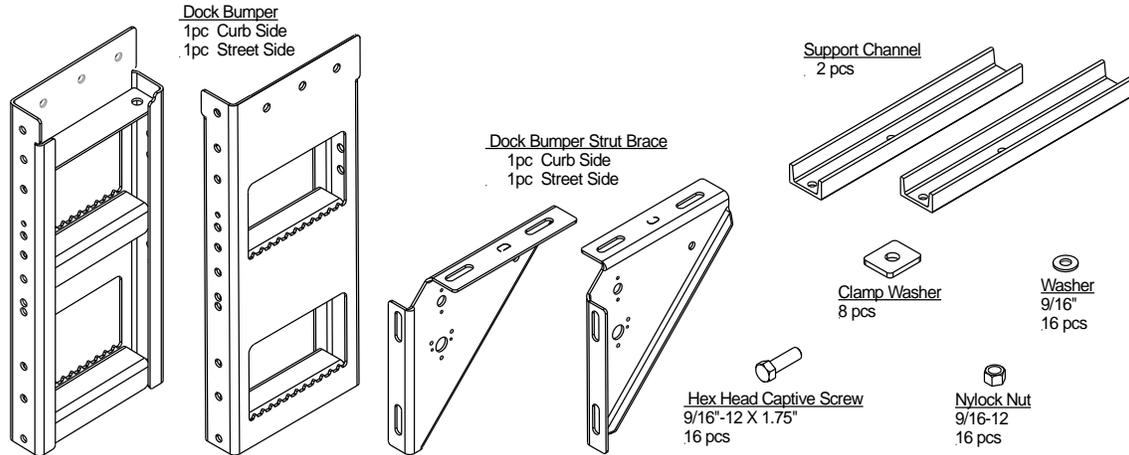

**Fig.11**
2. Dock Bumper Supports: Each strut brace has a marking for easy identification, the curb side strut has a “C” marking and the drive side strut has a “D”, **Fig.11**. Position the support channels perpendicular to a minimum of three of the vehicles cross members, move the channel horizontally for adjustment, **Fig.12**. Use clamps or similar devices to hold the support channels in place. Next position the strut against the dock bumper and support channel, clamp in place. Check for squareness. Finally, secure all components by welding.